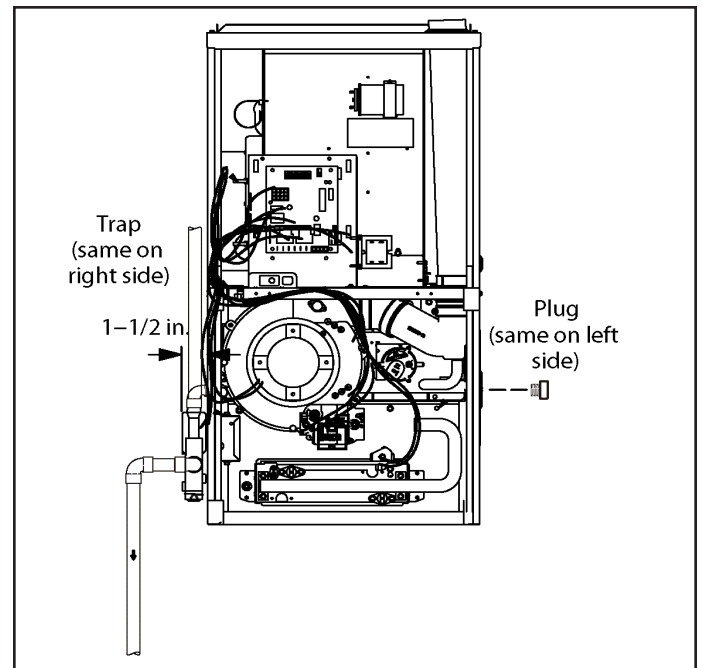

Figure 47. Condensate Trap and Plug Locations
This unit is designed for either right or left side exit of condensate piping in downflow applications. Refer to Figure 47 for condensate trap locations.
2. Use a large flat head screw driver or a 1/2" drive socket extension and remove plug (Figure 47) from the cold end header box at the appropriate location on the side of the unit. Install provided 3/4 NPT street elbow fitting into cold end header box. Use Teflon tape or appropriate pipe dope.